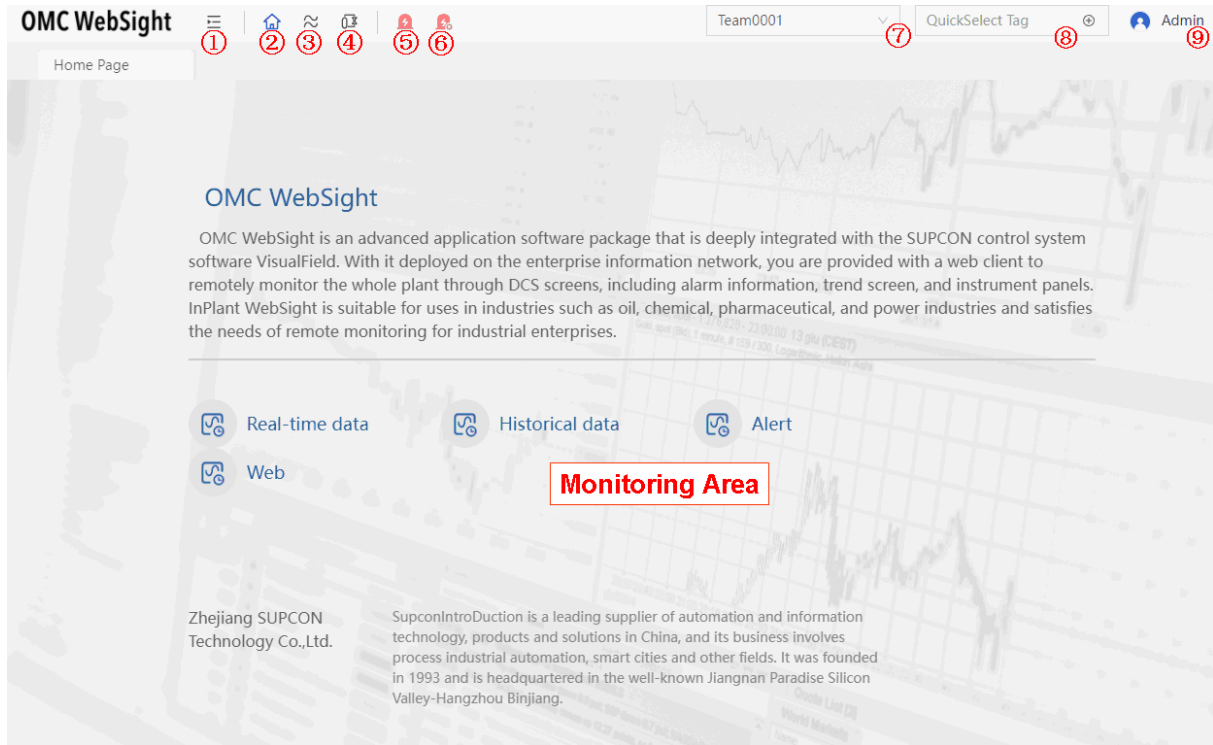

Figure 3-1 WebSight Monitor Interface
In the WebSight monitor screen shown in Figure 3-1, click  to show trend in the figure below..
1. In the WebSight monitor screen shown in Figure 3-1, click  and the graphics shown below pops up.